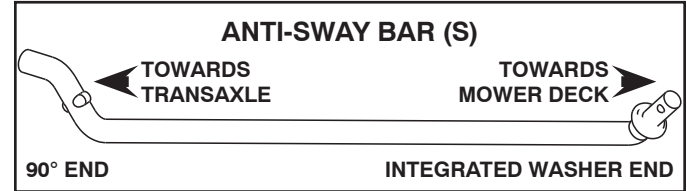

Fig. 26
5. INSTALL ANTI-SWAY BAR (S) (IF EQUIPPED) (See Fig. 26 - 28)